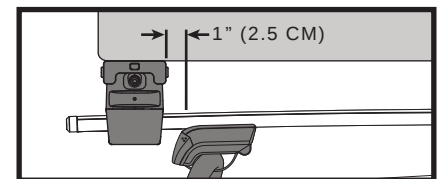

fig. 2
- ☐ Do not position mounting hardware more than 1" outside of Tower (see figure 2).